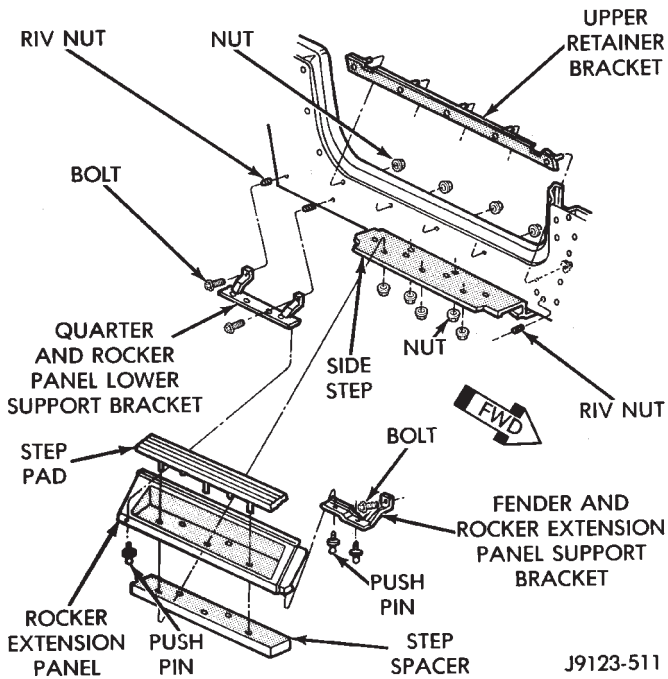

Fig. 53 *Rocker Extension Panel—Exploded View*
(3) Remove the push pins from the support brackets (Fig. 53).
(4) Remove the step pad, extension panel and spacer retaining nuts from the bottom of the side step (Fig. 53).
(6) Remove the retaining nuts and upper retaining bracket from the rocker panel (Fig. 53).
(7) If necessary, separate and remove the step pad and spacer from the extension panel (Fig. 53).
(1) If removed, install the fender/quarter and rocker extension panel support bracket(s) (Fig. 53),
(3) If removed, install the spacer and step pad on the extension panel (Fig. 53).
(5) Install the push pins in the support brackets (Fig. 53).
(6) Install the step pad, extension panel and spacer retaining nuts at the bottom of the side step (Fig. 53). Tighten the nuts to 6 N·m (53 in-lbs) torque.
(7) If applicable, remove the support and lower the vehicle.